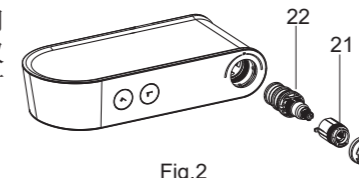

Fig.2
将螺母(20)和塑料套(21)卸下。小心地卸下温控阀(22)。用热醋进行清洗(Fig.2)。
Unscrew the nut(20) and stopper(21). Remove the cartridge(22) cautiously. Clean the cartridge by soaking it in warm vinegar(Fig.2).